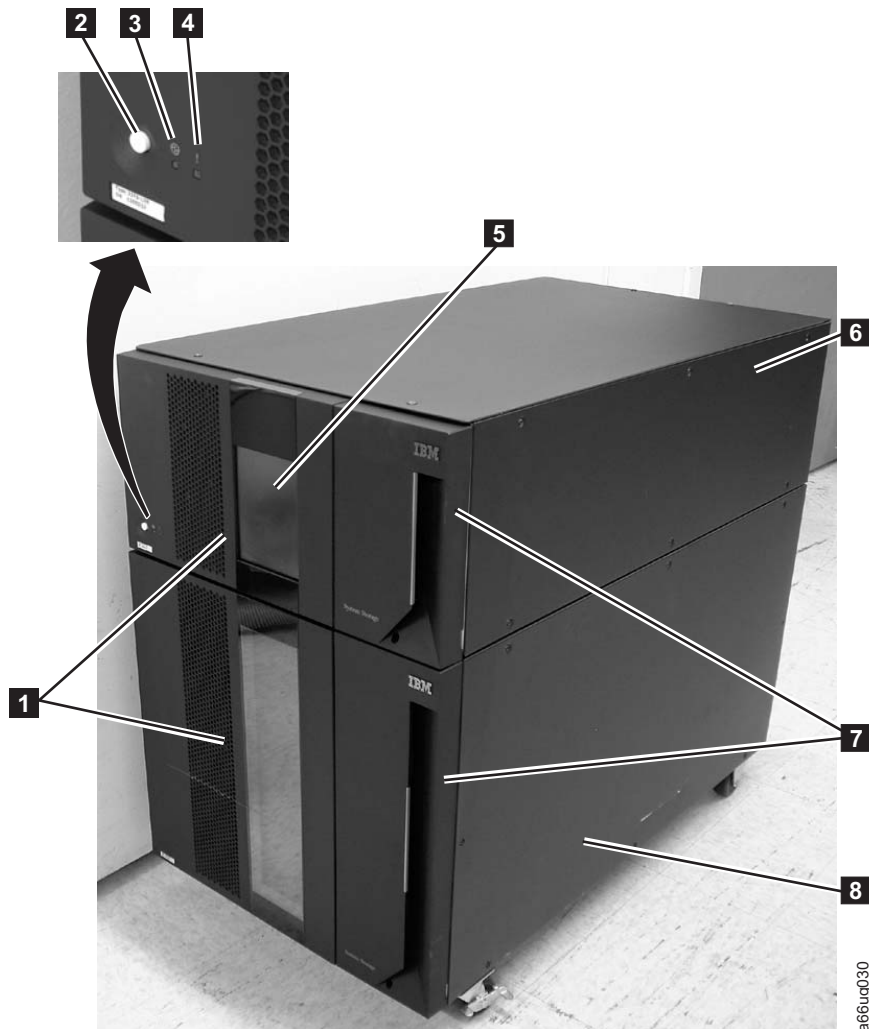

Figure 2-1. Front panel of a 14U library
All library configurations include the control module (**6** in Figure 2-1). The control module contains the robotics, library control blade (LCB), and touch screen display. The control module also contains an I/O station, fixed storage slots, tape drives, and at least one power supply.
Each 9U expansion module (**8** in Figure 2-1 on page 2-2) is a supplementary module that is attached to the 5U Control Module. Like the control module, the expansion modules provide fixed storage slots, tape drive slots, and power supply slots. The I/O station in an expansion module can be configured as storage.
I/O Stations (7 in Figure 2-1 on page 2-2) are located on the front panel of the library and enable the importing and exporting of cartridges without interrupting normal library operations. A control module I/O Station has a capacity of six cartridges. A 9U expansion module I/O Station has a capacity of 12 cartridges.
This door is locked by the I/O Station. To open the Access Door (**1** in Figure 2-1 on page 2-2), you must first open the I/O Station.
The Operator Panel (**5** in Figure 2-1 on page 2-2) is the touchscreen display device located on the Access Door of the control module. Library operations and service functions are performed from this screen.
Pressing the Power Button (**2** in Figure 2-1 on page 2-2) on the front panel of a control module turns the Picker and Operator Panel ON or OFF; however, power is still applied to the power supplies. The Power Button is used during library shutdown and to manually reboot the library.
- Green power ON LED (**3** in Figure 2-1 on page 2-2): When lit, this LED indicates that the library power is ON.
- Amber Operator Intervention Alert LED (**4** in Figure 2-1 on page 2-2): When lit, this LED indicates that there is a Library, Drives, or Media Operator Intervention available. To access the Operator Intervention, select **Tools** → **Operator Intervention** from the Operator Panel.